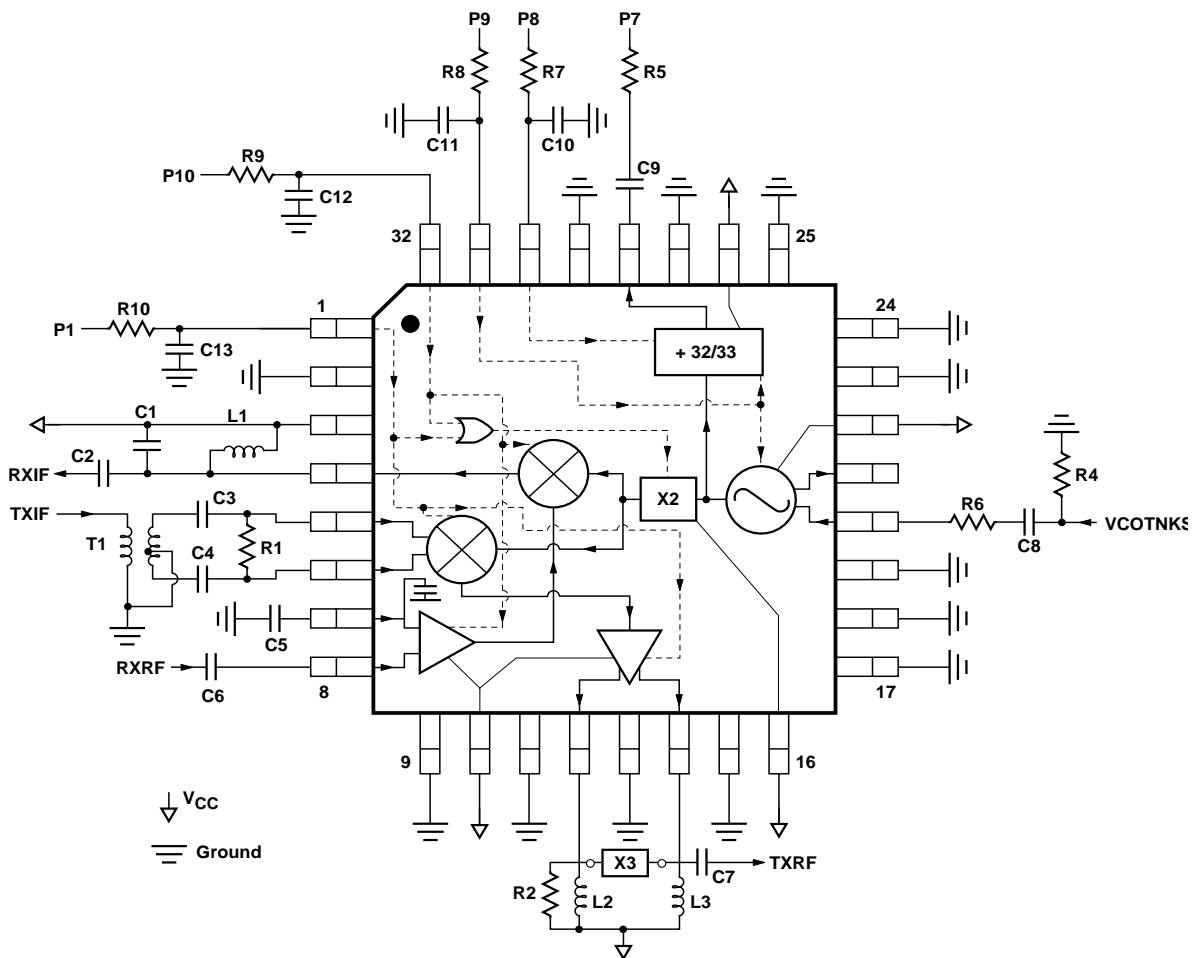

Figure 28. Test Board Schematic Diagram. All I/O Labels Correspond to Those on the Test board. See Table 3 for Component Values.
- DIV output AC coupled into a 2 k Ω || 10 pF load. See test diagram, Figure 28.
Table 3. Test Board Components Shown in Figure 28.
For transmit upconversion, a differential narrow-band modulated signal is AC-coupled into the TXIF and TXIFB inputs. The differential signal may be generated by the HPMX-5002 IF Demodulator/Modulator. Once on-chip, the signal is buffered and applied to a double-balanced Gilbert cell mixer. The upconverted RF signal is then amplified to generate a -0.6 dBm single-ended, single-sideband power signal at the 1 dB compression point. The RF outputs, TXRF and TXRFB, are open-collector outputs (see test diagram Figure 28 for recommended matching network). The TXRF output is AC-coupled into a 50 Ω transmit filter. This signal is then filtered and amplified off-chip by an external power amplifier before it is switched into the antenna. The HPMX-5001 may also be used in DECT systems which utilize direct modulation of the 1LO for data transmission. In this case, either the TXIF or TXIFB input, but not both, must be tied to V_{CC} to cause the upconverting mixer to act as a buffer stage.
In receive mode, a preamplified RF signal is passed through an image filter and applied as a single-ended signal to the 50 Ω RXRF input. Use of a 2.7 pF blocking capacitor is recommended. RXRF is the non-inverting input of the RF input amplifier. The inverting input of this amplifier, LNAREF, is self-biased and requires only an external capacitor (recommended value of 3.3 pF) to ground. The receive downconversion mixer also employs a double-balanced Gilbert cell configuration. The production version of the HPMX-5001 will have two equivalent open collector outputs. The HPMX-5001 can operate at IF frequencies up to 300 MHz (see Figure 28 for recommended matching network).